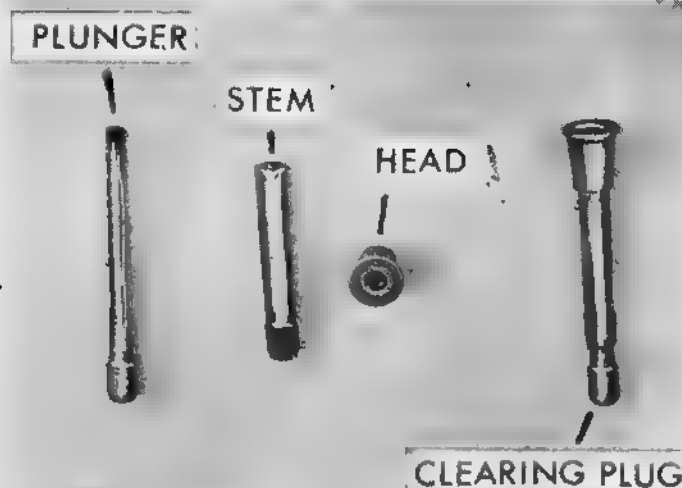

Fig 14.—The clearing plug
- (c) If you cannot see any obstruction, screw up the base of the clearing plug (see Fig 14) tight, put it in the chamber, press the trigger, cock the gun, see that the clearing plug has brought away the separated case, put back the magazine, aim and fire.